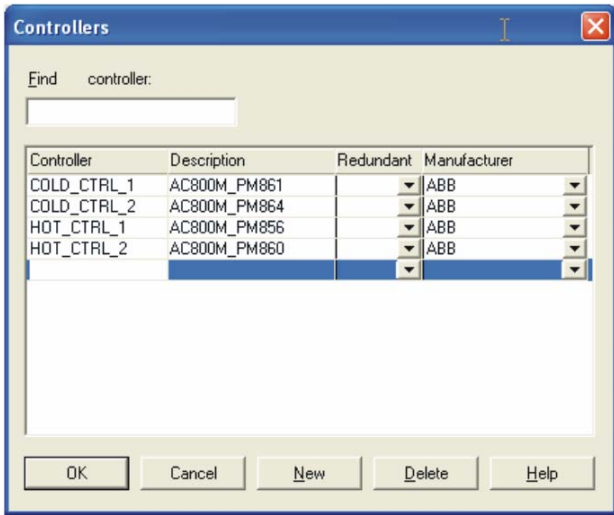

Figure 66. Find Controllers
To configure the ABB controllers, perform the following (refer to Figure 66 for more information):
2. Enter the type of controller under the description column. The product will use this field to determine the INtools/SPI class type of the controller. Examples are shown in Figure 66 to distinguish between the different processor types for AC 800M controllers.